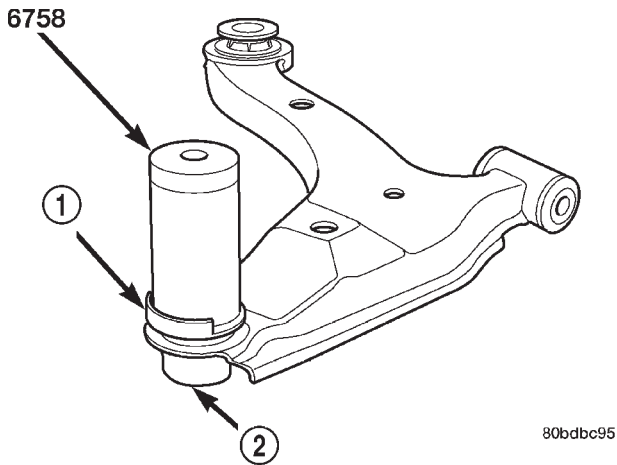

Fig. 47 Seal Boot Installation
CAUTION: When installing the sealing boot on the ball joint, position the upward lip on the outside perimeter of the seal boot outward, away from the control arm once installed (Fig. 47). It is there to help shield heat from the sealing boot.
(6) Place a new ball joint seal boot over the ball joint stud. The upward lip located on the outside perimeter of the seal boot must point outward away from the control arm once installed (Fig. 47). Start the sealing boot over the sides of the ball joint by hand.
(7) Position the Installer, Special Tool 6758, over the sealing boot outer diameter as shown (Fig. 47). By hand, apply pressure to the top of the Installer until the seal boot is pressed squarely down against the top surface of lower control arm.
(8) Remove the tool.
(9) Install the lower control arm on the vehicle. Refer to LOWER CONTROL ARM in the REMOVAL AND INSTALLATION section.